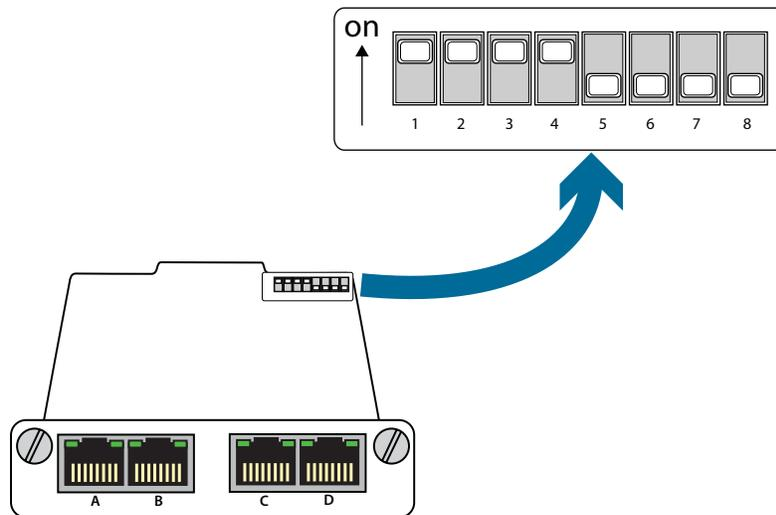

Figure 19: V-Line Breakout mode
- ❖ To set Breakout mode on V-Line (Bypass) modules in a portable chassis, set the DIP switches as shown in Figure 19. See Appendix B, V-Line DIP Switches on page 48 for switch key.